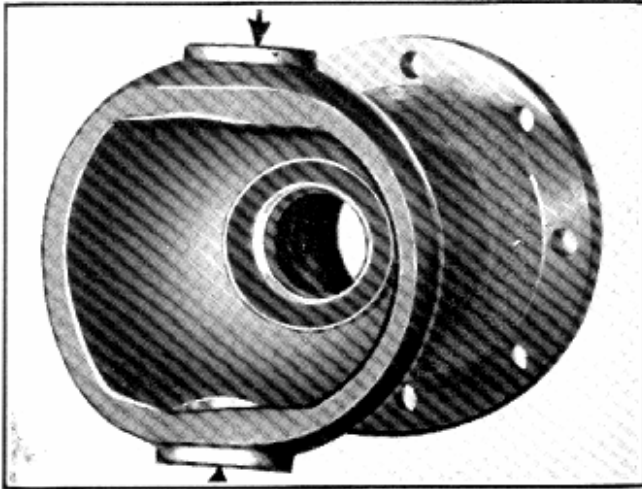

Fig. 27—Pivot Pin Bearings
1. Install the pivot pin bearings, Fig. 27, using an arbor press.